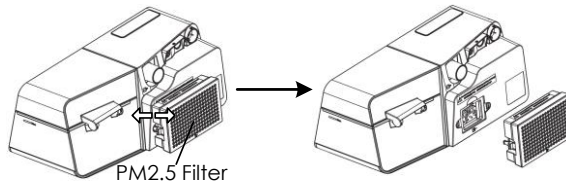

Fig. 18-9
(3) Disassemble the PM2.5 Filter from the device, as shown in Fig. 18-9. Then change a new one.